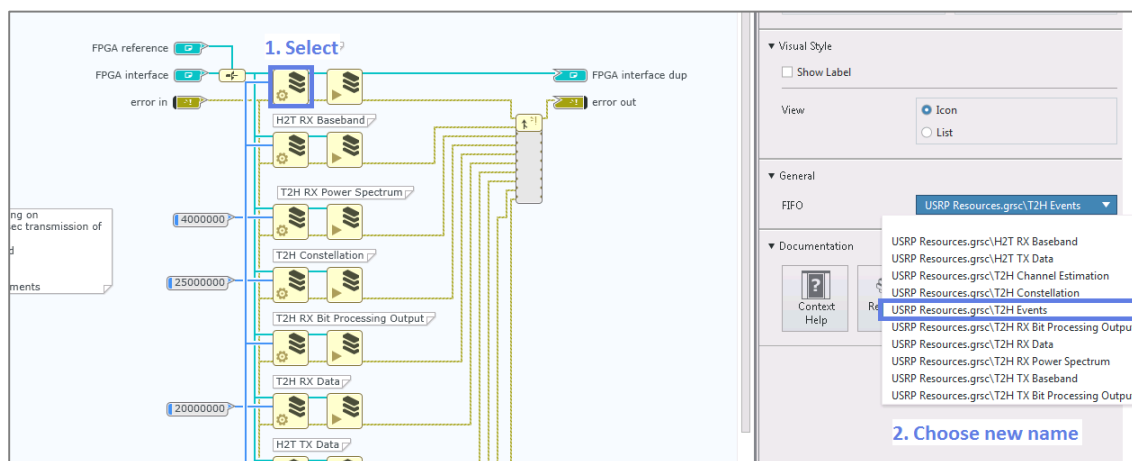

Figure 21 – “802.11 Setup DMA FIFOs.gvi” - Adopt FIFO Name
7. Select the first FIFO node and adopt the FIFO name as shown in Figure 21.